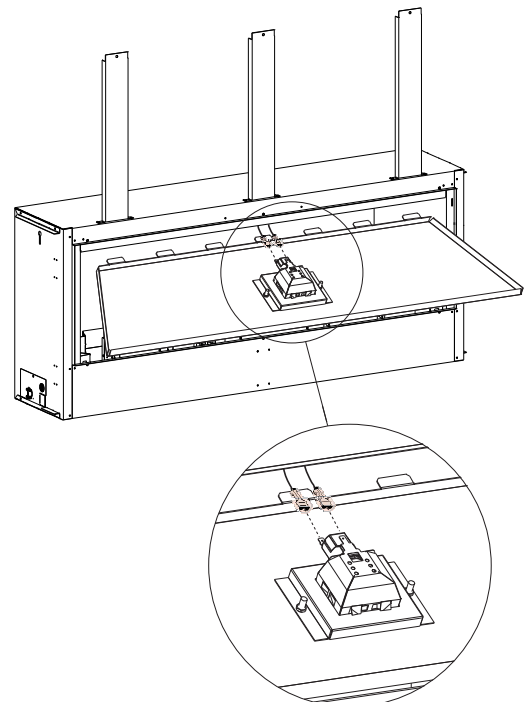

Figure 8
- Connect the wire harness to the light. See Figure 8.